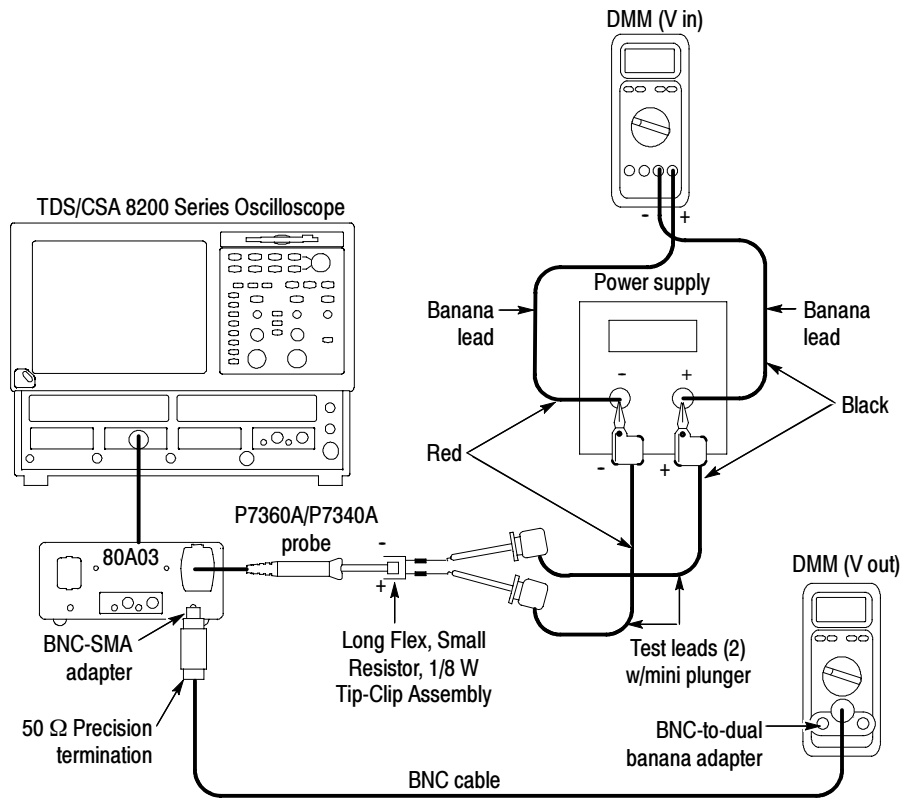

Figure 21: Reverse the power supply polarity on the probe inputs
6. Reverse the polarity of the voltage applied to the probe inputs by swapping both sets of banana leads at the power supplies, as shown in Figure 21.